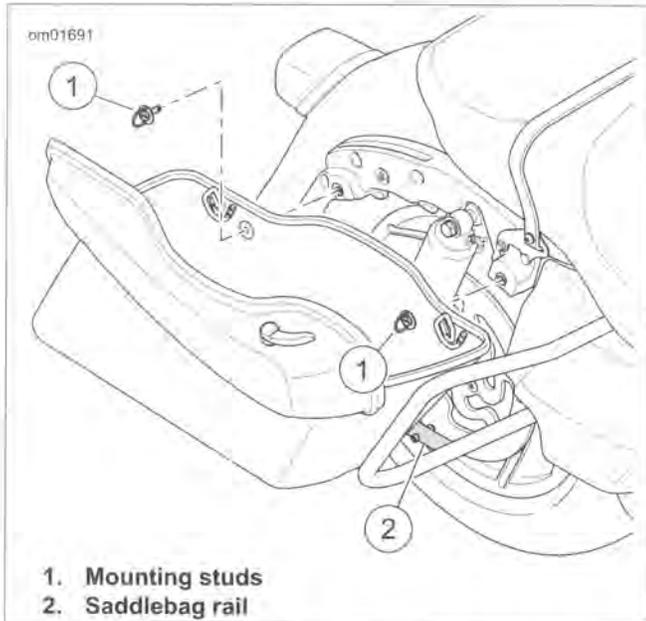

Figure 2-114. Saddlebag Removal/Installation
2. See Figure 2-114. Rotate each stud (1) 1/4 turn counter-clockwise. Remove studs and flat washers from grommets.